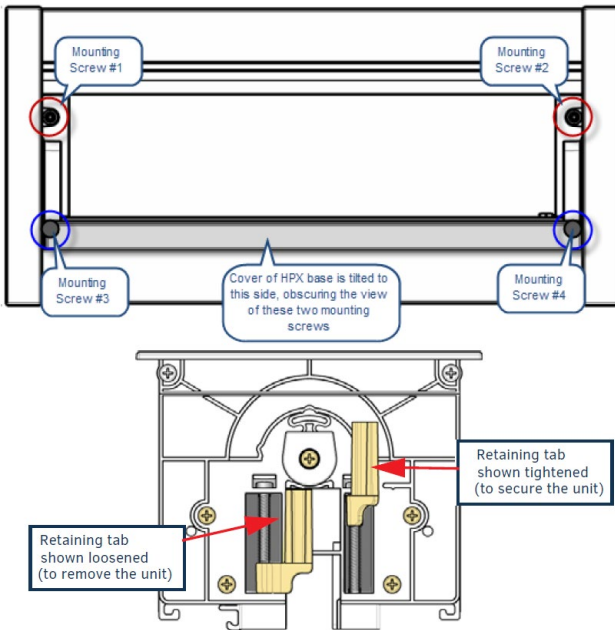

FIG. 3 HPX Base Assembly (shown mounted) – Mounting Screw Locations
3. Carefully tighten the mounting screws until the mounting tabs contact the backside of the mounting surface and torque to 8 in-lbs (FIG. 3). It will be necessary to flip the cover to the opposite side to access the other two screws.